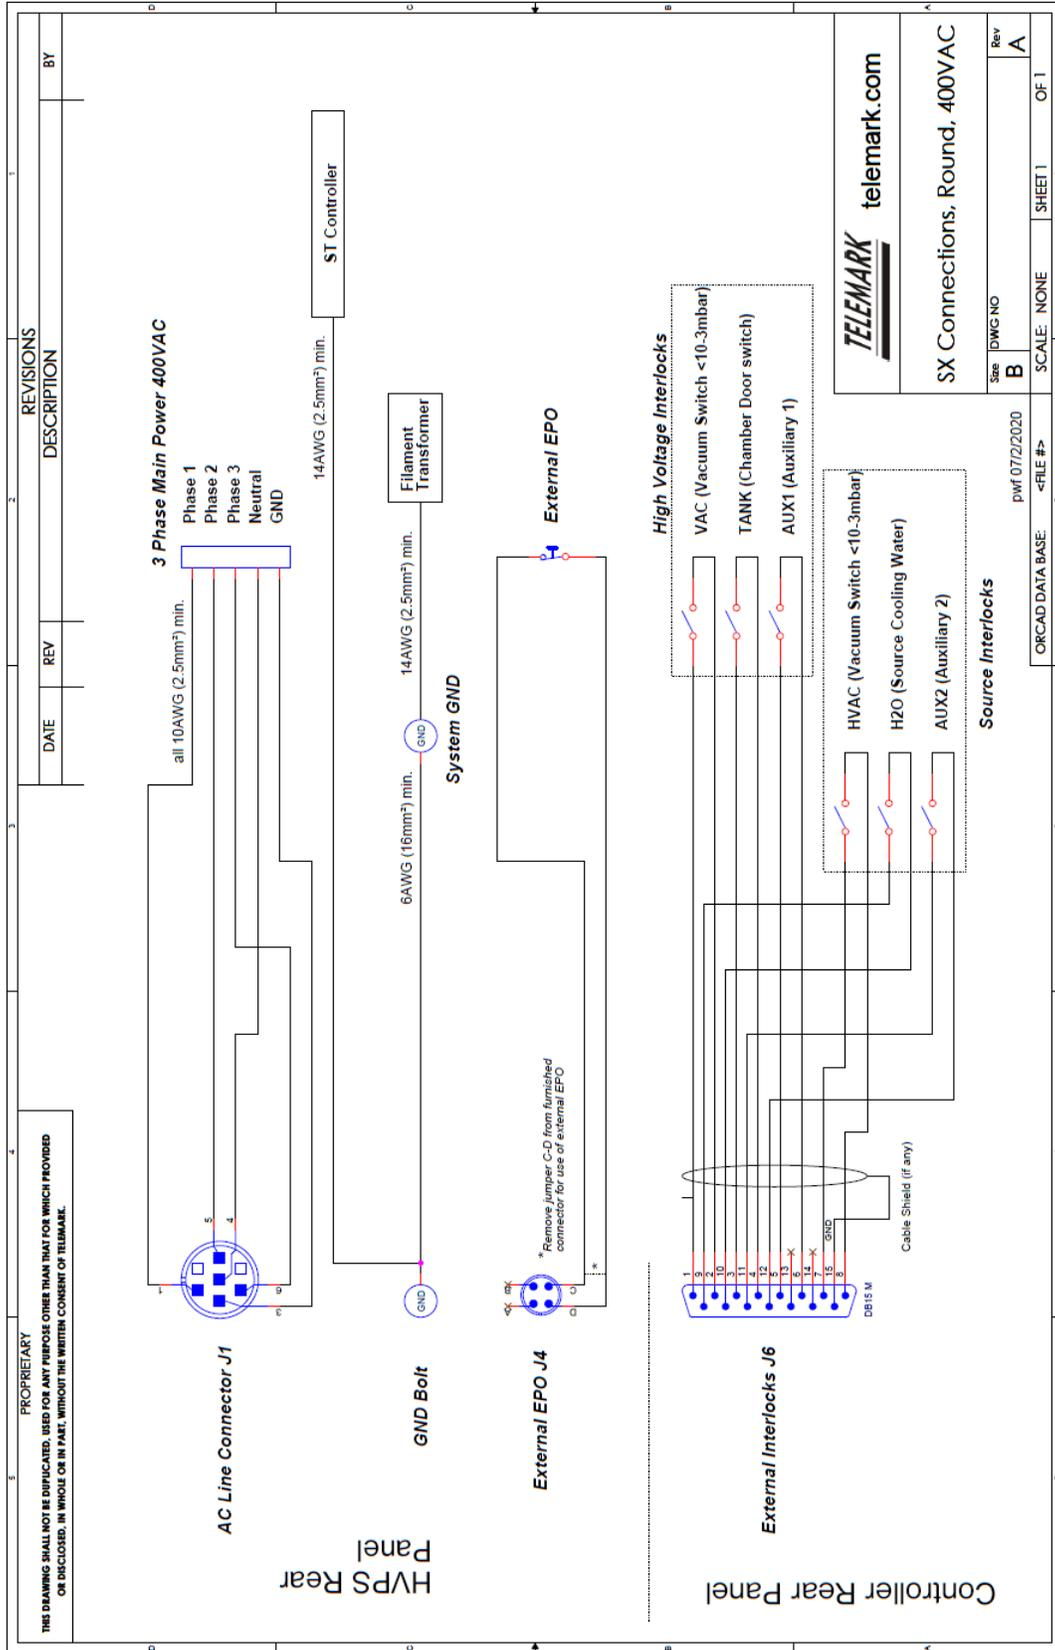

Figure 9-2, Connections SX series 400VAC Round Version
- Figure 9-2 Connections SX-4/6/8/10/12, Round Connector, 400VAC